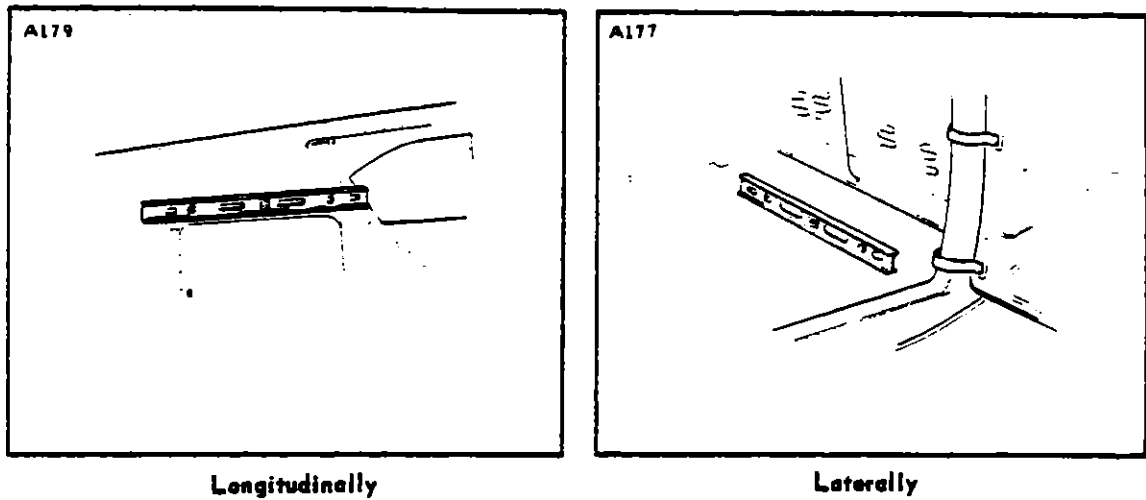

FIGURE 2-11. LEVELING AIRPLANE
2-13. **Leveling.** (Refer to Figure 2-11 and 2-12.) The aircraft may be leveled while on jacks or during the weighing procedure. (Refer to Paragraph 2-12 for weighing.)
- a. To longitudinally level the aircraft, partially withdraw the two leveling screws on the side of the fuselage. Refer to Figures 2-11 or 2-12 for the leveling location on the particular aircraft being serviced. Use a level long enough to extend across the two screw heads.
- d. To laterally level the aircraft, place a level over the bulkhead to which the baggage door hinge brackets are attached or on the hat section channel of the firewall bulkhead. (Refer to Figures 2-11 or 2-12 for the particular location of the aircraft being serviced.) Should equipment or other obstacles hinder placing the level directly on the channel, use two spacers of equal length between the level and the channel to bring the level above any obstacles.